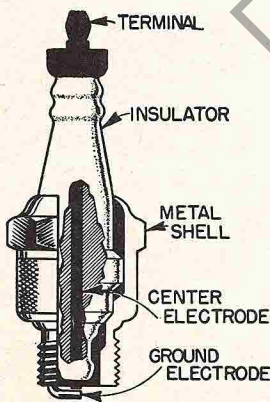

Fig. CS25 — Cross sectional view of spark plug showing construction and nomenclature.
**THE SPARK PLUG.** In any spark ignition engine, the spark plug (See Fig. CS25) provides the means for igniting the compressed fuel-air mixture in the cylinder. Before an electric charge can move across an air gap, the intervening air must be charged with electricity, or ionized. If the spark plug is properly gapped and the system is not shorted, not more than 7,000 volts may be required to initiate a spark. Higher voltage is required as the spark plug warms up, or if compression pressures or the distance of the air gap is increased. Compression pressures are highest at full throttle and relatively slow engine speeds, therefore, high voltage requirements or a lack of available secondary voltage most often shows up as a miss during maximum acceleration from a slow engine speed. There are many different types and sizes of spark plugs which are designed for a number of specific requirements.